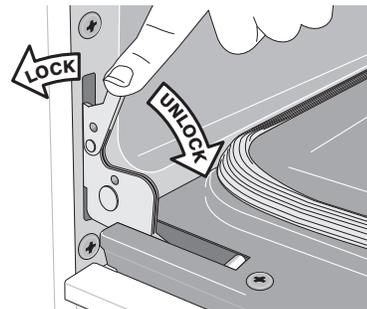

Figure 44: Hinge lock/unlock positions
2. Pull the door hinge locks on both left and right door hinges down from the oven frame completely towards the oven door (Figure 44). A tool such as a small flat-blade screwdriver may be required.
4. Push the door hinge locks up towards and into the oven frame on both left and right oven door hinges (Figure 44) to the locked position; then, close the oven door.